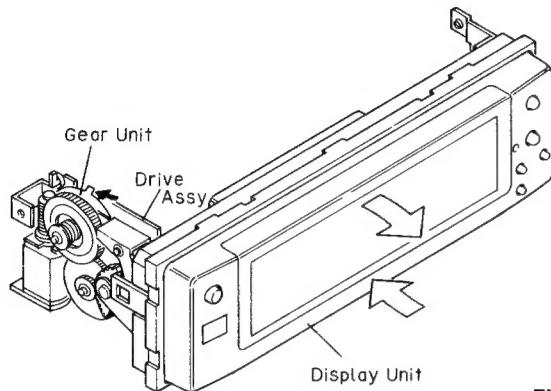

Fig.5
1. While holding the tab of gear unit at locations indicated by black arrow.(Fig.5)
2. Press the display unit at locations indicated by white arrows.(Fig.5)